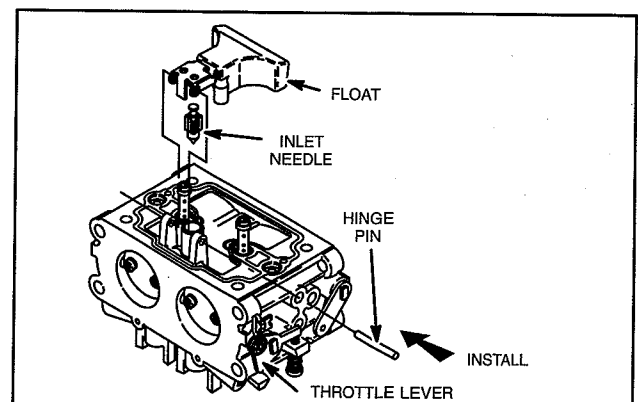

Fig. 54 – Install Float
5. Assemble inlet needle to float and install float assembly, Fig. 54.